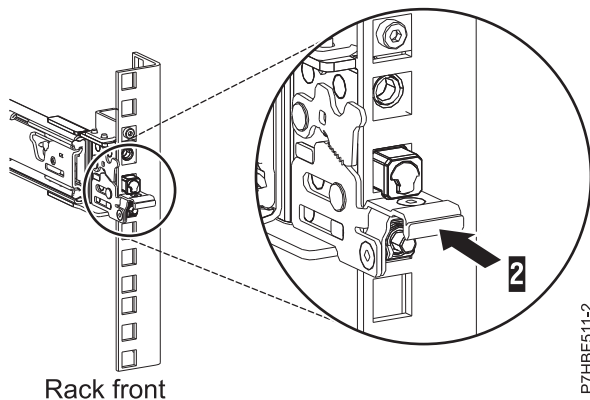

Figure 6. Latch seated on the front rail of the rack
7. While you pull the slide rail forward, ensure that all three pins protrude through the rack holes, then push the front latch (2) all the way in. For details, see Figure 6.